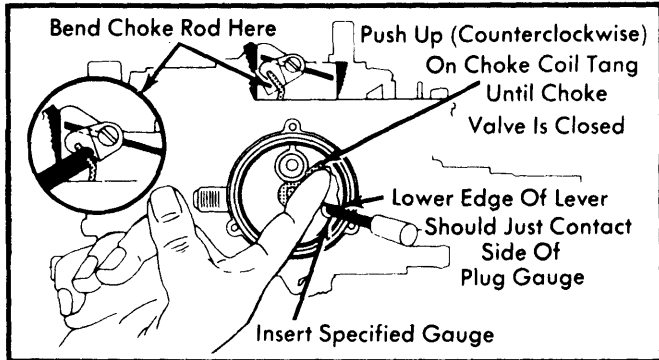

Fig. 4 Adjusting Choke Coil Lever
1) Remove 3 retaining screws, then remove choke cover and coil from choke housing. See Fig. 4.